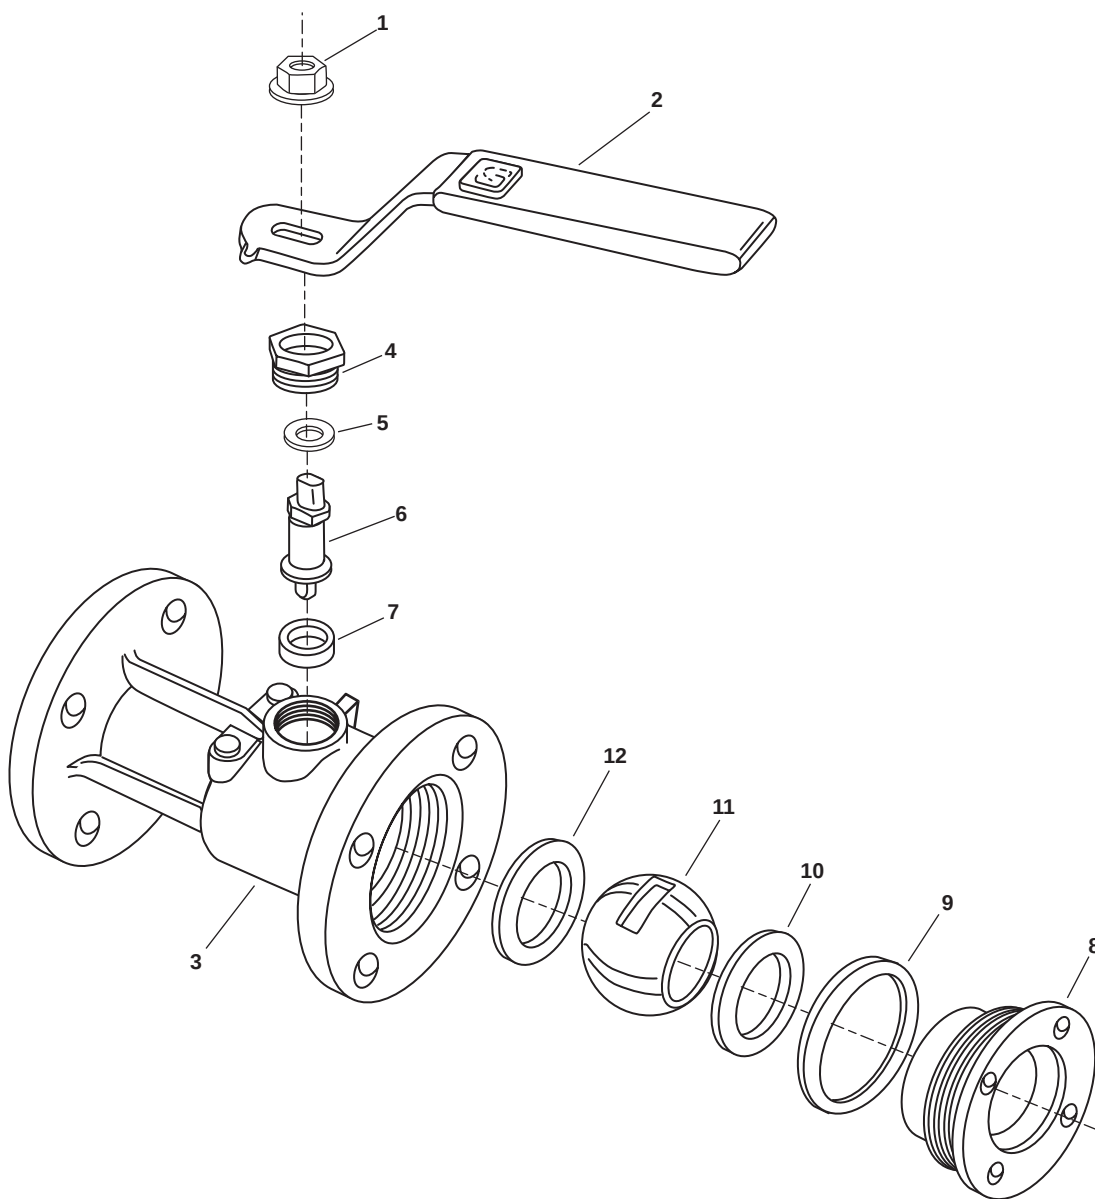

Figure 1. Ball Valve Repair
1. Remove the nut (figure 1, item 1) and the handle (figure 1, item 2) from the valve body (figure 1, item 3).
2. Remove the gland nut (figure 1, item 4) from the valve body (figure 1, item 3).
3. Remove the gland nut packing (figure 1, item 5) from the valve body (figure 1, item 3). Discard the gland nut packing.
4. Remove the valve stem (figure 1, item 6) from the valve body (figure 1, item 3).
5. Remove the valve stem packing (figure 1, item 7) from the valve body (figure 1, item 3). Discard the valve stem packing.
6. Remove the retainer (figure 1, item 8) from the valve body (figure 1, item 3).
7. Remove the gasket (figure 1, item 9) from the valve body (figure 1, item 3). Discard the gasket.
8. Remove the valve seat (figure 1, item 10), the ball (figure 1, item 11), and the valve seat (figure 1, item 12) from the valve body (figure 1, item 3).
3. Install the valve seat (figure 1, item 12), the ball (figure 1, item 11), the valve seat (figure 1, item 10), and a new gasket (figure 1, item 9) in valve body (figure 1, item 3). Secure them with the retainer (figure 1, item 8).
4. Install new valve stem packing (figure 1, item 7) in the valve body (figure 1, item 3).
5. Install the valve stem (figure 1, item 6) in the valve body (figure 1, item 3).
6. Install new gland nut packing (figure 1, item 5) in the valve body (figure 1, item 3). Secure it with gland nut (figure 1, item 4).
7. Install the handle (figure 1, item 2) and secure it with the nut (figure 1, item 1).